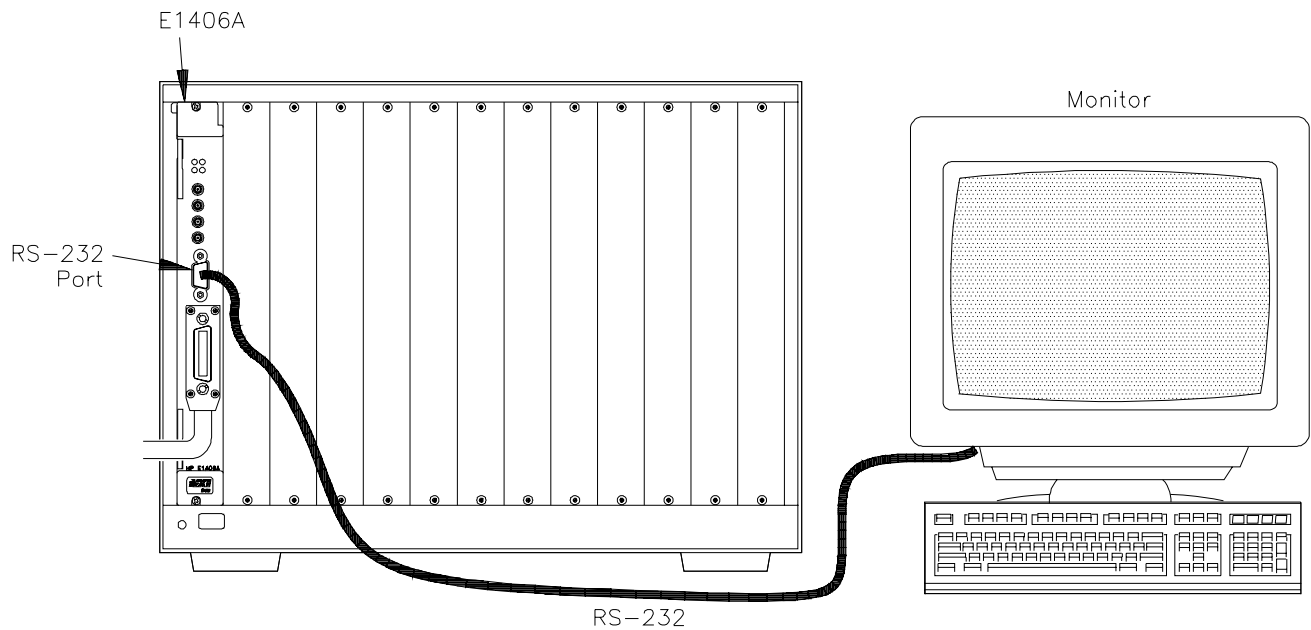

Figure 2-5. RS-232 Power-On Test
- Connect RS-232 terminal to command module (see Figure 2-5)